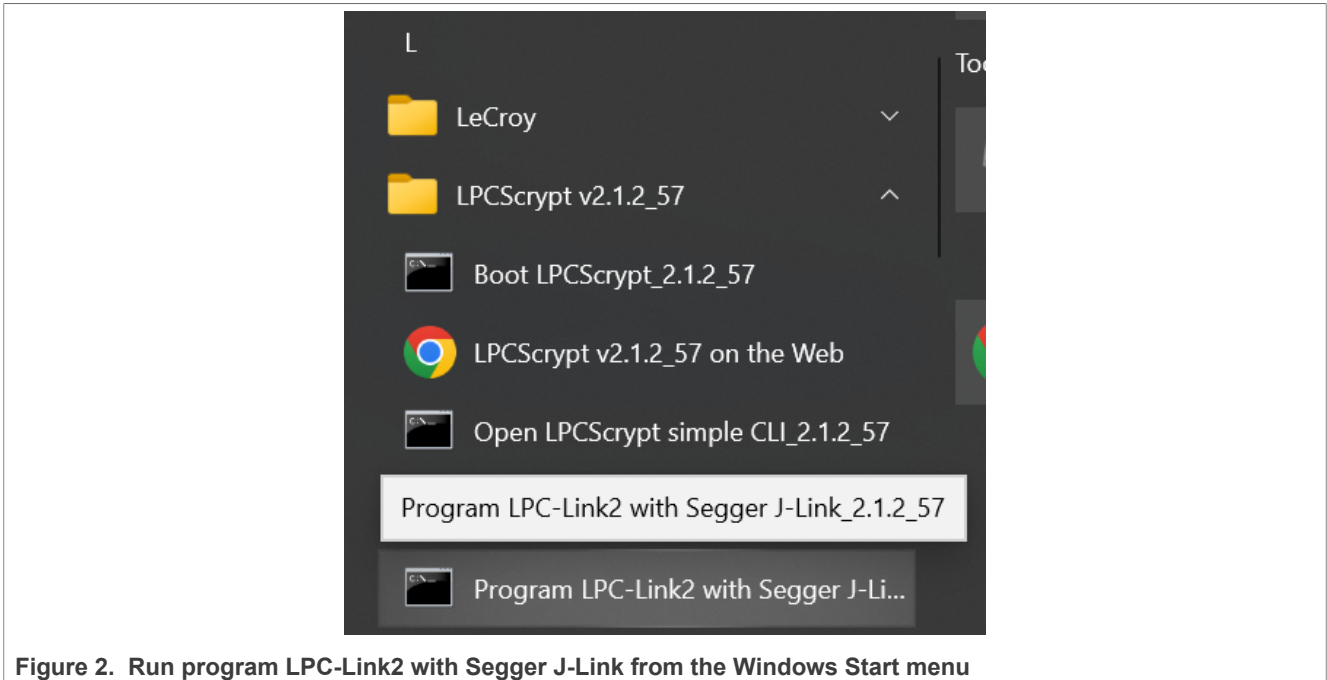

Figure 2. Run program LPC-Link2 with Segger J-Link from the Windows **Start** menu
4. To program LPCLink2 J-Link, press the Enter key and the log is as shown in Figure 2.